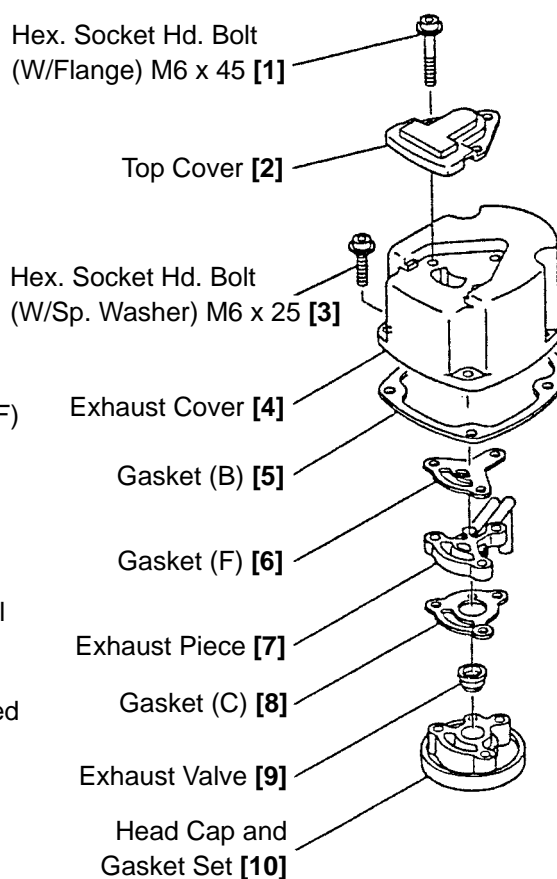

Fig. 11 Disassembly of main body, upper part
(2) Head Cap and Gasket Set [10], Exhaust Piece [7] and related parts (See Fig. 11.)
- Loosen the three Hex. Socket Hd. Bolts (W/Flange) M6 x 45 [1] and as illustrated in Fig. 11, remove the Head Cap and Gasket Set [10], Exhaust Valve [9], Exhaust Piece [7], Gasket (C) [8] and Gasket (F) [6].